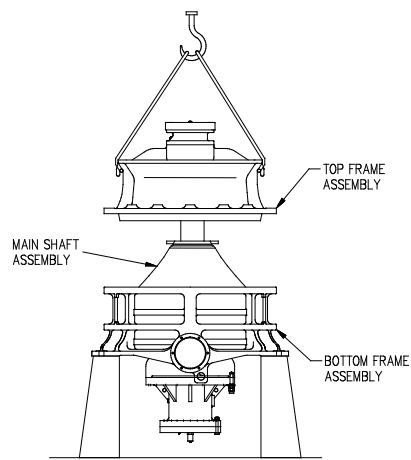

Fig. 6.3.1
1. Loosen all top / bottom frame mounting bolts and remove the top frame. (Fig. 6.3.1)